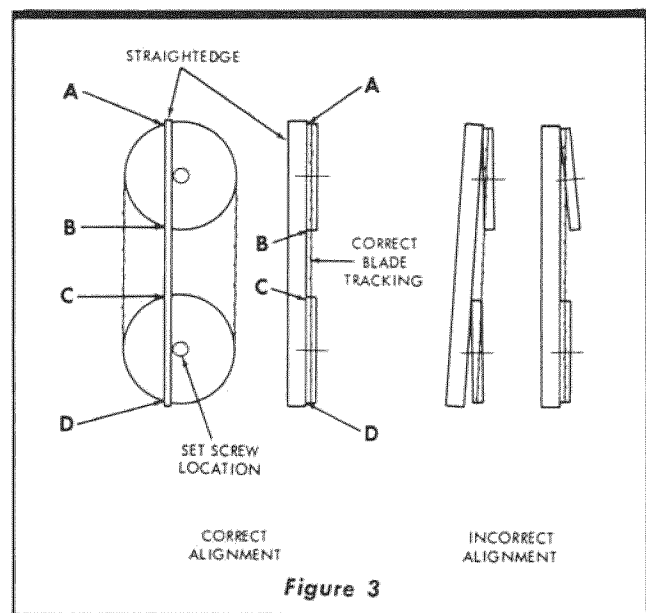

Figure 3
- a. After installing the saw blade, and rotating the wheels a few turns, place a straight edge across the two wheels. (See figure 3.)